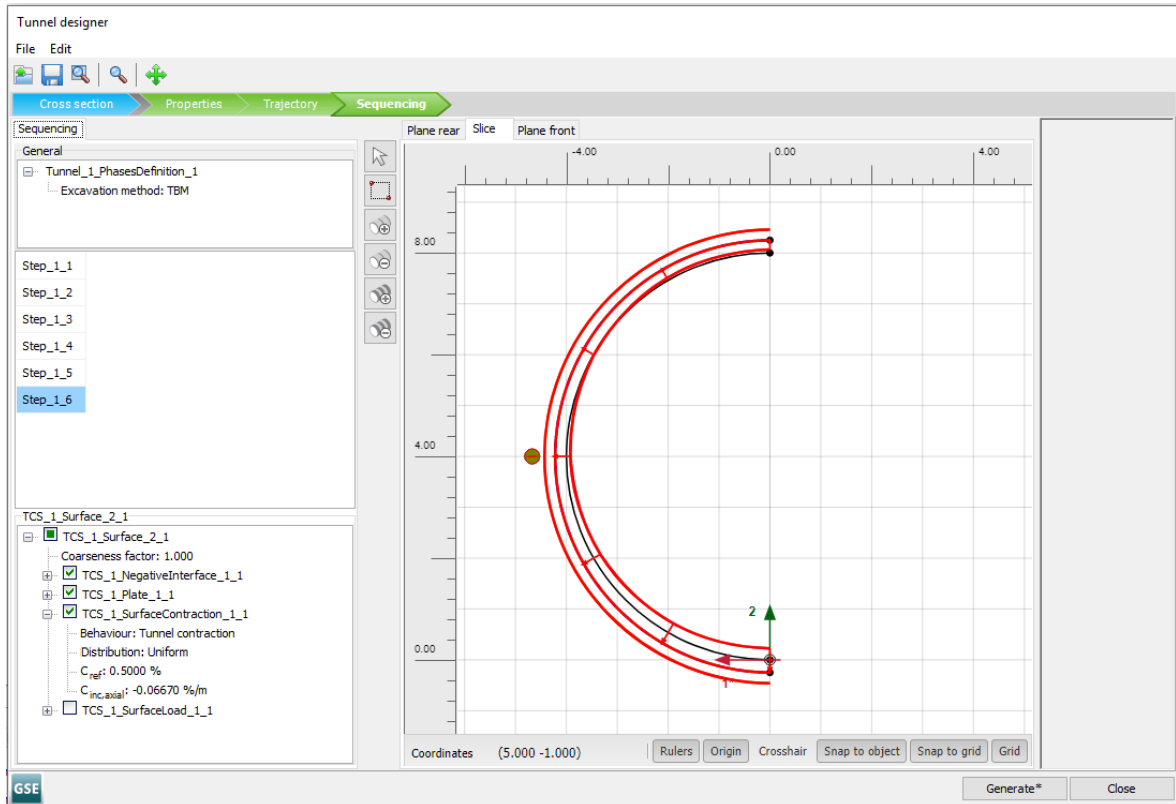

Figure 72: Slice tabsheet in the *Tunnel designer* for Step_1_6
- In the **Selection explorer** select from the **Surface contraction** > **Distribution** the *Uniform* option with $C_{ref} = 0.5\%$ (Figure 72 (on page 99)).